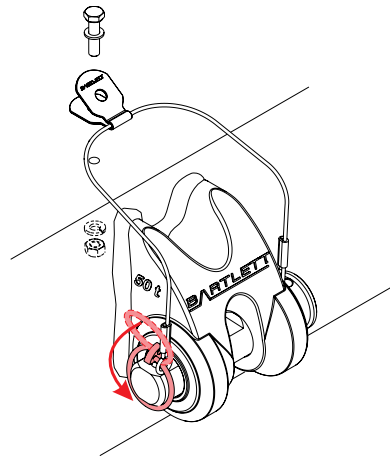
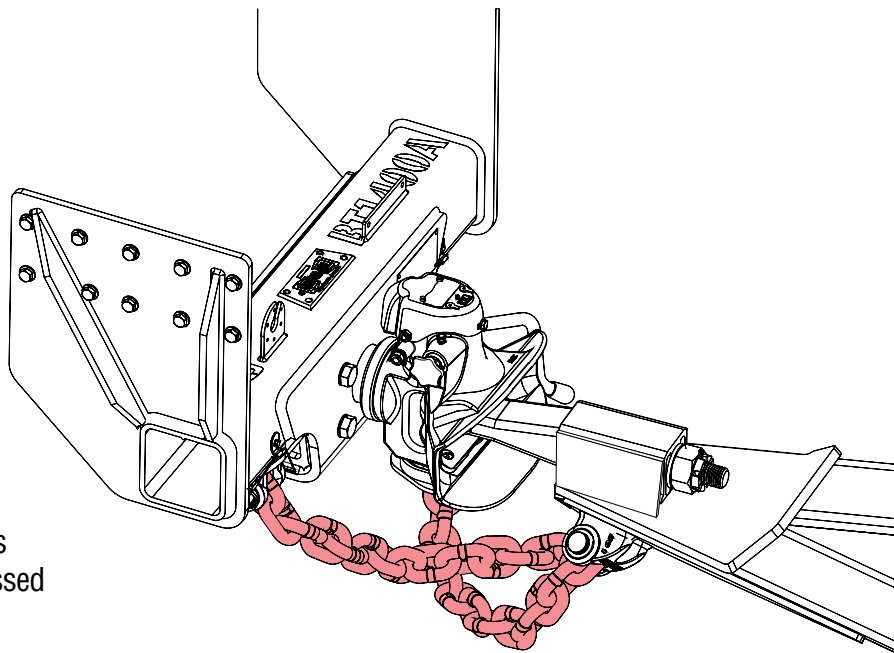

Fig 3.2 Towbar attachment assembly, secure lynch pin and lanyard with fasteners supplied.
Fig 3.3 Safety chains must be crossed
- **Towbar Attachments:** Drill hole Ø 6mm in Towbar for P-Clip. Insert Drawpin retaining cable into P-Clip, fix P-Clip to towbar using fasteners supplied **(Fig 3.2)**.
- **In Service:** Insert trailer chain into towbar attachment and secure using drawpin and locking Lynch Pin. **(Fig 3.2)** Chains must be crossed to better constrain trailer drawbar movement. **(Fig. 3.3)** Ensure electrical, pneumatic and hydraulic service lines are not tangled or restricted by the chains.